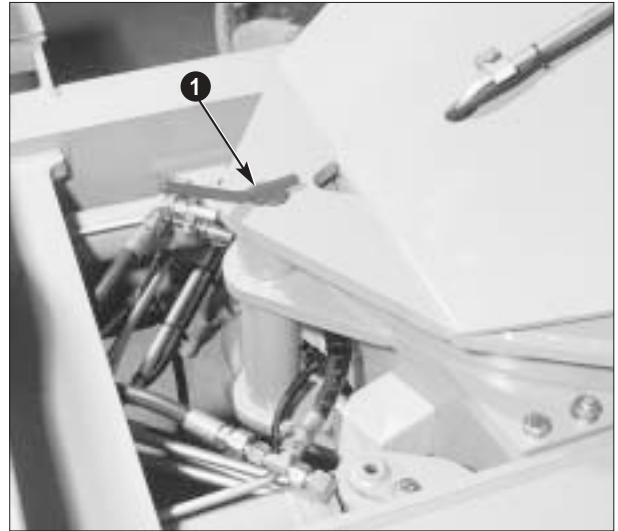

Fig. 42
2. Mount the pivot lock Fig. 45 and safety bolt 1, Fig. 42.
If you do not want to use the multi-tip function, the turning movement can be blocked by fitting the safety bolt 1 fig. 42.
- the support device fig.46 is mounted or, if multi-tip, the safety bolts on both sides fig. 47 and the safety bolt fig.42 for turning are mounted.